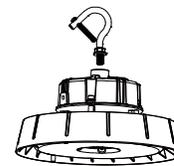

Figure 1
1. Screw the hook into the fixture, and tighten. (figure 1)